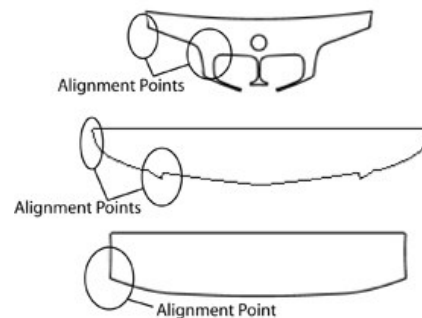

Figure 1B
10. From the center to the edge, identify the first corner point in the kit with which the kit can be aligned as in the examples shown in Figure 1B.